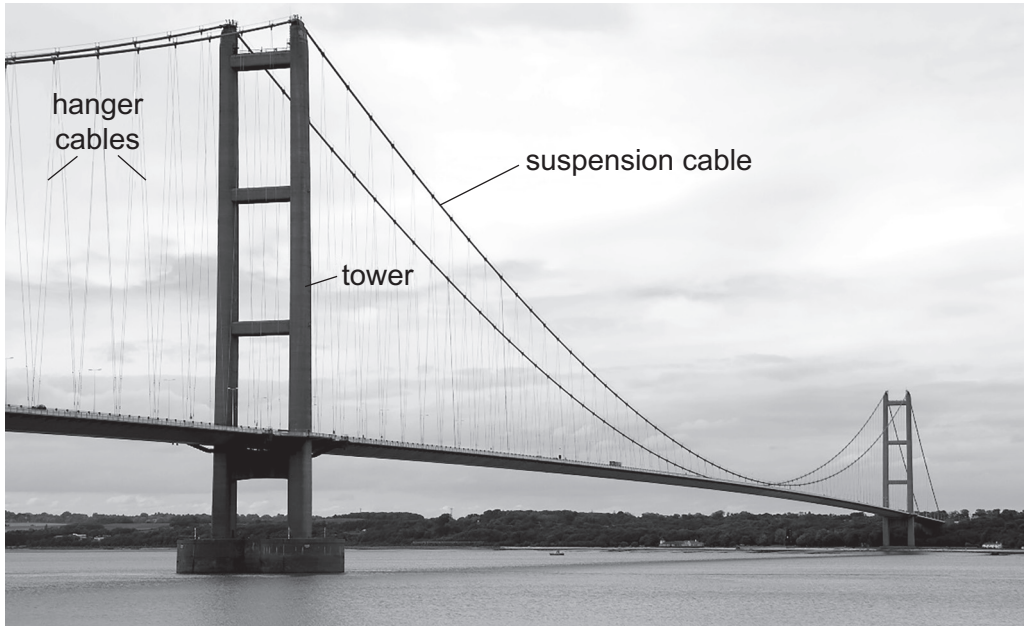

Fig. 10.2
- (c) Fig. 10.2 shows a single span suspension bridge crossing a river estuary.